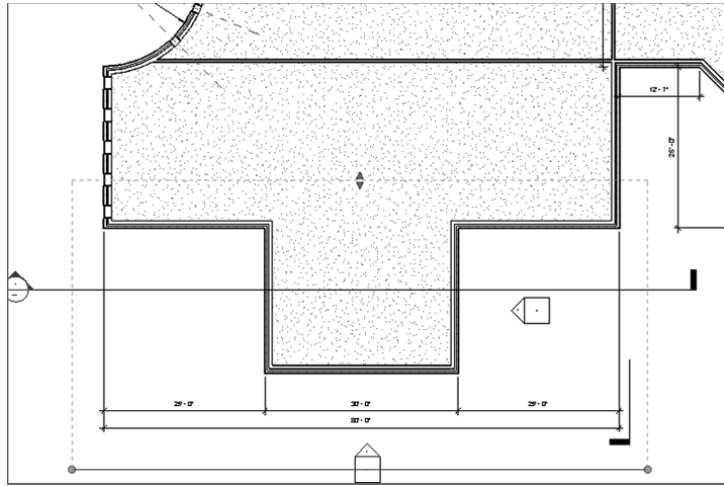

FIGURE 7.47: Adjusting the view
7. Place the elevation as shown in Figure 7.47.
10. Make sure you pull the view depth window back to see the wall beyond (see Figure 7.47).